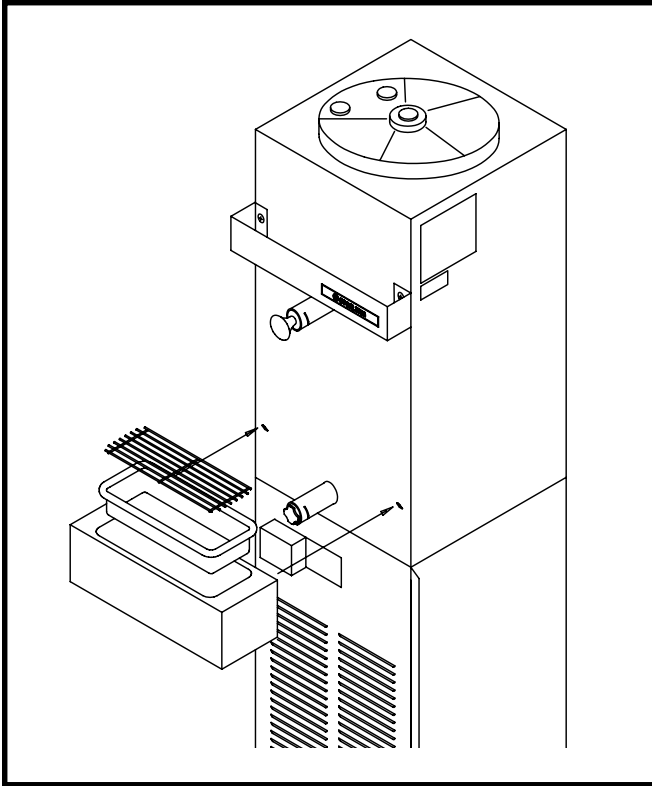

Figure 13
- C. Remove the Sani-tray and cover by gently pushing up to disengage from the support pins and pulling out and down (Fig. 13).